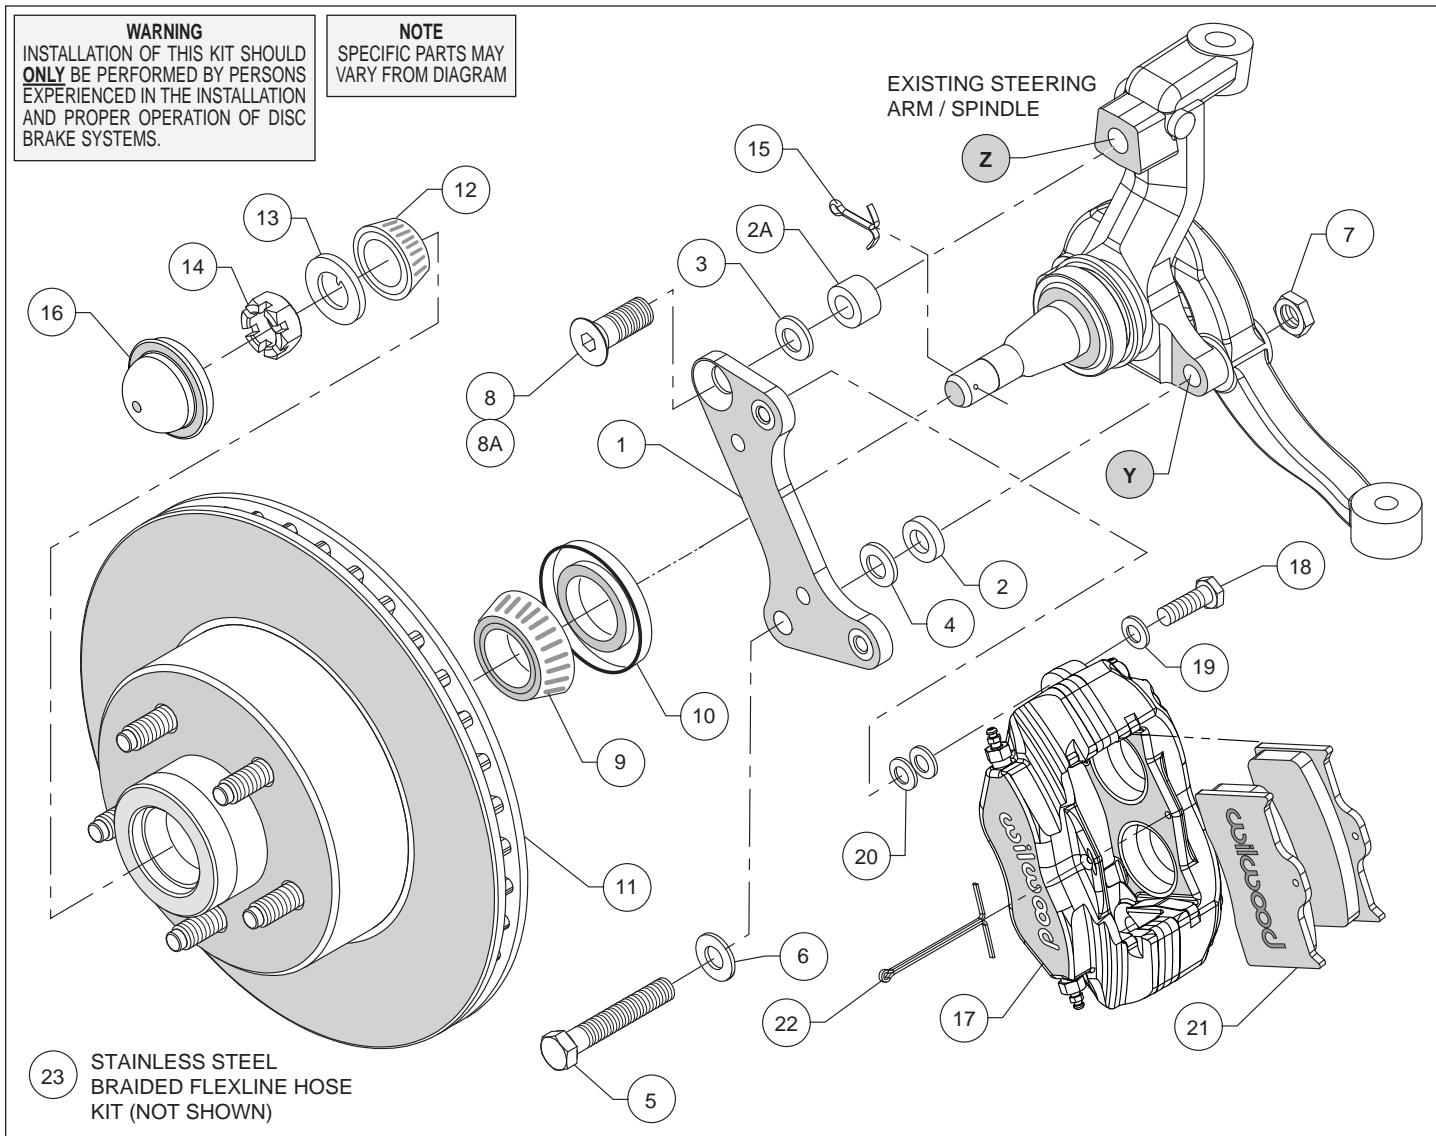
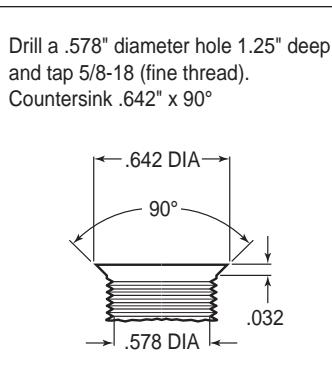
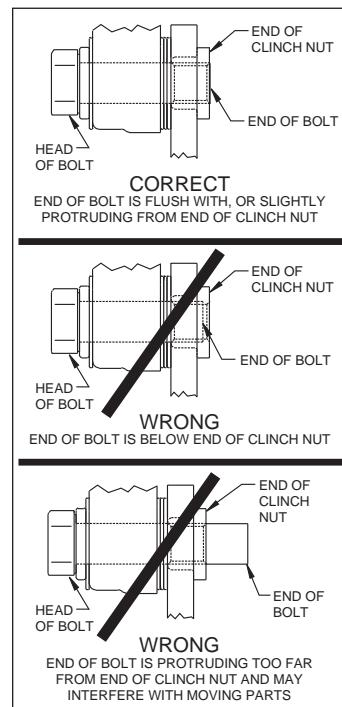

Figure 1. Typical Installation Configuration
Figure 3. Drill and Tap Detail
Figure 4. Clinch Nut Engagement Diagram
Assembly Instructions (numbers in parenthesis refer to the parts list and Figure 1 on the preceding page): **CAUTION:** All mounting bolts must fully engage clinch nuts. Be sure to check that all bolts are either flush or protruding through flanged side of clinch nut after shimming, Figure 4.
•**NOTE:** 1964-66 spindles may require the following modifications (reference Figure 1 and Figure 3): Top anchor pin hole (Z) must be drilled and tapped to the dimensions as outlined in Figure 3. Bottom rear steering arm bolt hole (Y) in the spindle and steering arm must be enlarged to .50" by drilling.
•Pack the large inner bearing cone (9) with high temperature disc brake bearing grease (available from your local auto parts store) and install into the backside of the hub (11), Photo 1.
•Install the grease seal (10) by pressing into the backside of the hub (11), flush with the end of the hub.
•Attach caliper mounting bracket (1) to spindle face using lower bolt (5), washer (6), and a .090" thick spacer (2) positioned between the bracket and the spindle face, as shown in Figure 1 and Photo 2. Secure bolt on the backside of the steering arm with nut (7). Finger tighten. Install upper bolt (8) (for drum spindle) or bolt (8A) with spacer (2A) between bracket and spindle (for disc brake spindle), Photo 3. Ensure that the flanged heads of the clinch nuts in the bracket are facing outboard, Photo 3. Temporarily tighten the mounting bolts and install the new hub/rotor (11). Check that the bracket is aligned parallel to the rotor, Photo 4. If not, adjust by adding shim washers (3 and/or 4) between spacers (2 and/or 2A) and the bracket, Figure 1. Once the bracket alignment is correct, remove the bolts one at a time, apply red *Loctite® 271* to bolt threads, and torque upper bolt (8 or 8A) to 120 ft-lb. and lower nut (7) to 77 ft-lb.
•Final install hub/rotor. Pack the small outer bearing cone (12) with high temperature disc brake bearing grease and install into hub (11). Slide the hub/rotor onto the spindle. Secure using spindle washer (13) and nut (14), Photo 5. Adjust bearings per OEM specifications. Install new cotter pin (15).
•Press the dust cap (16) into hub (11).
•**NOTE:** Please reference the caution statement at the beginning of the assembly instructions. Mount the caliper (17) onto the caliper mounting bracket (1) using bolts (18) and washers (19), as shown in Figure 1. Initially place two .032" thick shims (20) on each bolt between the caliper and the bracket, Photo 6. Temporarily tighten the mounting bolts and view the rotor (11) through the top opening of the caliper. The rotor should be centered in the caliper, Photo 7. If not, adjust by adding or subtracting shims between the bracket and the caliper. Always use the same amount of shims on each of the two mounting bolts. **NOTE:** The end of each bolt must be flush with or slightly protruding from the head of the clinch nut, as shown in Figure 4.
If necessary place spare shims between washer (19) and caliper mounting ear to achieve the proper clinch nut engagement, as shown in Figure 4. Once the caliper alignment and clinch nut engagement are correct, remove the bolts one at a time, apply red *Loctite® 271* to bolt threads, and torque to 40 ft-lb.
- Install the disc brake pads (21) into the caliper, with the friction material facing the rotor (11), Photo 8. Secure in place using cotter pin (22), Photo 9.
- **NOTE:** OEM rubber brake hoses generally cannot be adapted to Wilwood calipers. The caliper inlet fitting is a 1/8-27 NPT. Install Wilwood's stainless steel braided flexline hose kit (16), P/N 220-7699 included with this kit, Photo 8. **Carefully route hoses to prevent contact with moving suspension, brake or wheel components.** Using the supplied grommet, route the new hose through the factory retaining bracket. Pinch the bracket closed enough to retain the new grommet and hose in place, while not binding or damaging the hose. **NOTE:** Wilwood hose kits are designed for use in many different vehicle applications and it is the installer's responsibility to properly route and ensure adequate clearance and retention for brake hose components.